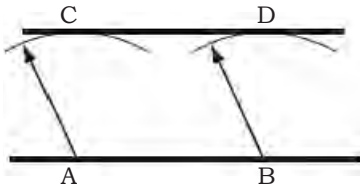

Fig. 1.14: Drawing parallel lines
6. In case the parallel line is to be drawn, which passes through the point C, then draw a perpendicular from point C to the line meeting at A. Set the compass opening equal to the length of the perpendicular CA, draw an arc from the point B and mark highest point or point of tangency on the arc D and join CD. Alternatively, a perpendicular can be drawn from point B and cut this perpendicular at the same length as CA to obtain point D (Fig 1.14).